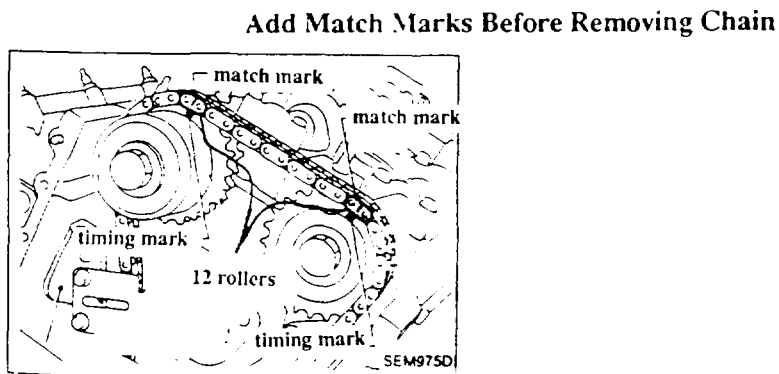

Figure 4
5. Use the indelible marker to scribe a "match mark" on the chain links adjacent to the cam sprocket timing marks (Figure 4).
4. Verify that the RH *cam chain marks* align with the sprocket timing marks and that the match marks on the cam front flange still align with the arrows on the front cam caps. (see Figure 4)
6. Verify that the LH chain match marks align with the sprocket timing marks and that the match marks on the cam flange align with the cam cap arrows. (see Figure 4)